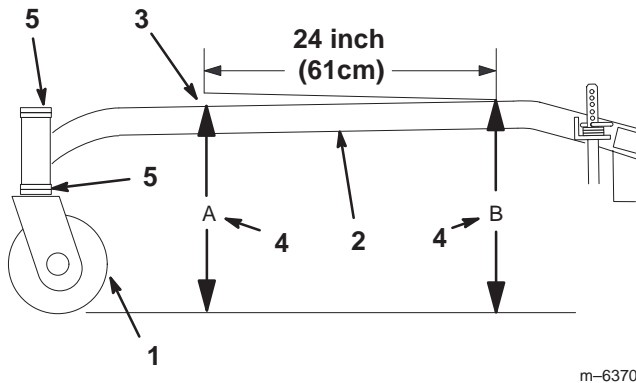

Figure 56
The carrier frame must have a pitch of a 1/4 inch (6 mm) over the length of 24 inches (61 cm) on the carrier frame (Fig. 56).
1. Measure out 24 inches (61cm) on the carrier frame (Fig. 56).
2. Measure carrier frame height at location **A** (Fig. 56).
3. Measure carrier frame height at location **B** (Fig. 56).
4. The height at location **A** must be a 1/4–3/8 inch (6 mm –10 mm) lower than location **B** (Fig. 56).
5. If the carrier frame is not correct, move caster spacers to make it a 1/4–3/8 inch (6 –10 mm) pitch (Fig. 56). Move spacers from top or bottom to make the correct pitch.